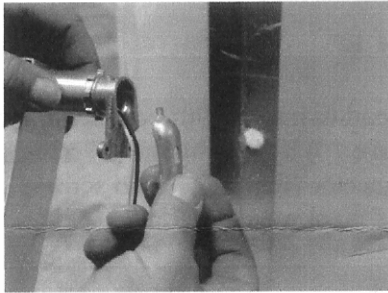
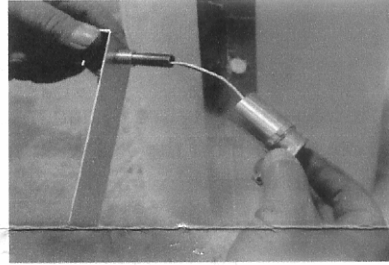
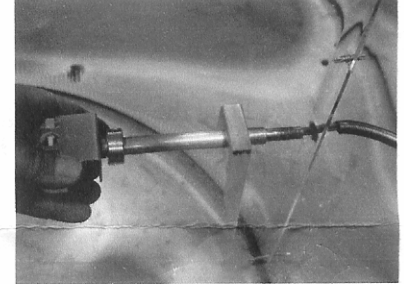

Figure 3A
Figure 3
Figure 4
**STEP 2.** Remove the 1" coupler with the 90° connector attached from the 1/2" threaded pipe (**Figure 3**), do this by taking off the back part of the 90° connector where the set-screw is at (**Figure 3A**) the reason for this is so you don't twist the wires. Insert the black and white wires through the 1/2" hole in the light tube up to the large bracket (**Figure 4**).